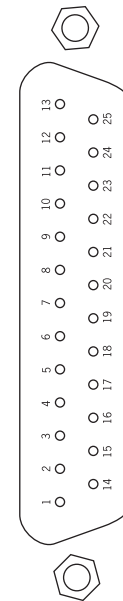

Figure 41. TTL In/Out Connector
This connector provides 8 TTL lines in, 8 TTL lines out and an input control line. Figure 41 illustrates the connector and Table 13 lists the signal/pin assignments.
2. Referring to Figure 41, note that pin 8 = GND and pin 9 = TTL OUT 1.